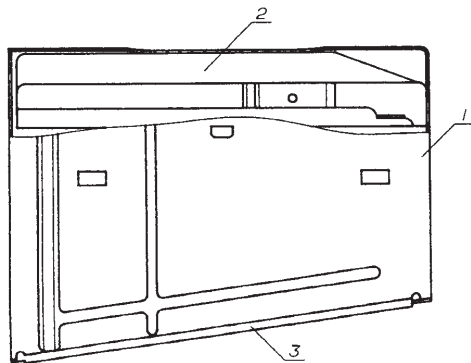

Fig. 8 – Magazine
12. The magazine (Fig. 8) serves to hold the specified quantity of ammunition and to move it to the lips in firing.